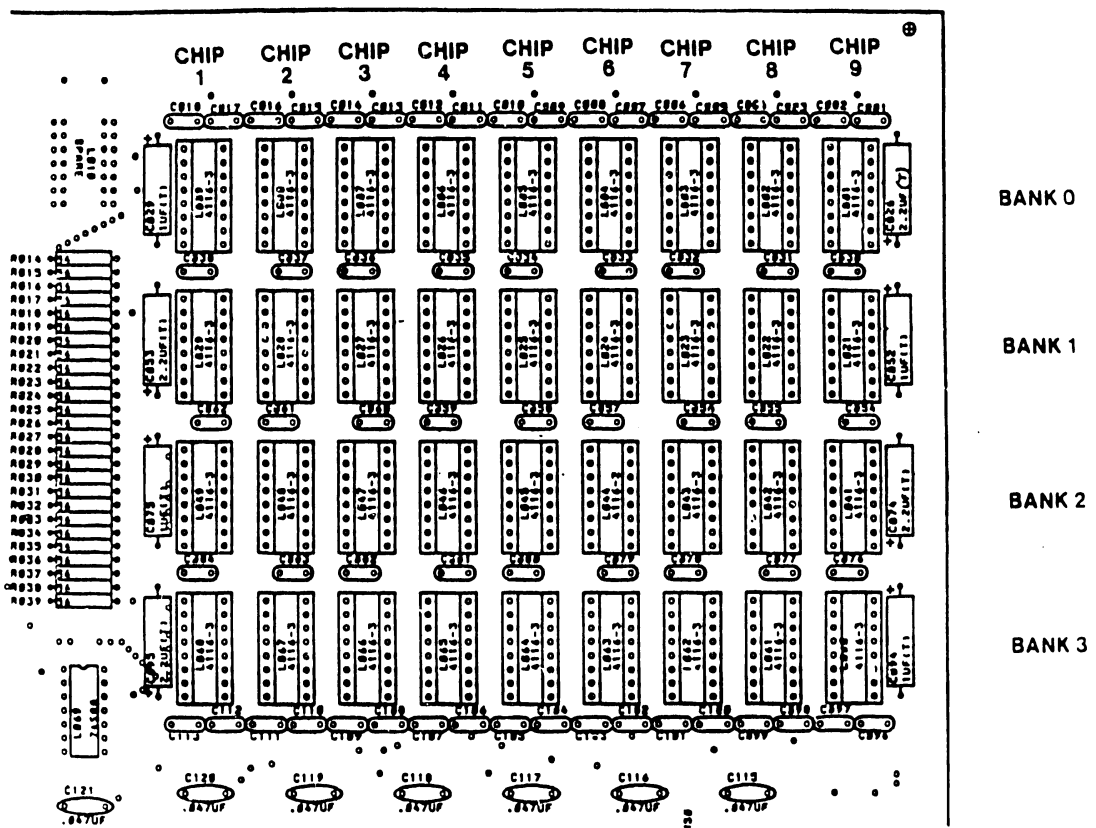

Figure 5-2 Memory Chip Layout
3. Refer to Figure 5-2 for the location of memory chips specified by the LED's.